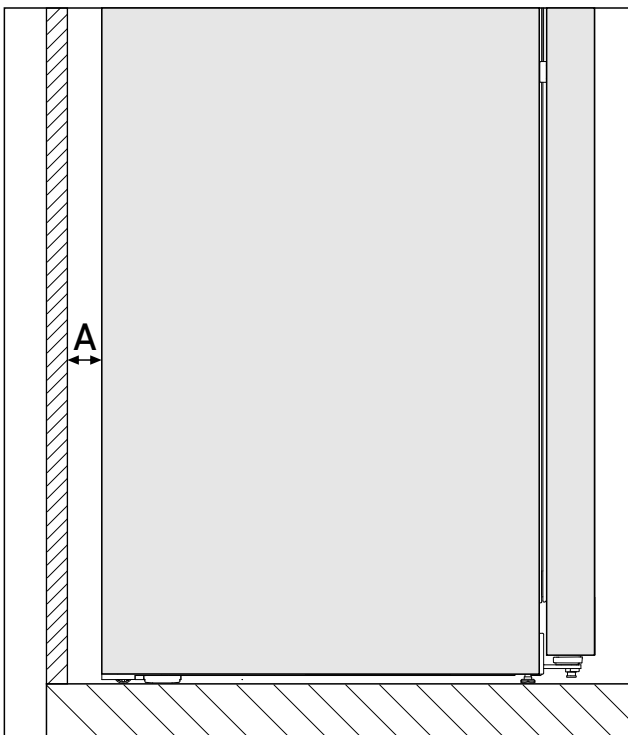

Fig. 3 \*
The energy consumption has been determined with a gap of Fig. 3 (A) between the rear of the appliance and the wall. If the wall gap is less than Fig. 3 (A), this does not affect the appliance's operability but the energy consumption does increase slightly at a smaller wall gap.